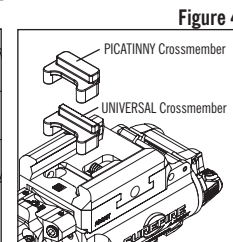

Figure 4
1. Loosen Rail-Adjustment Bolt by turning counterclockwise until Universal crossmember is fully exposed (Figure 4).